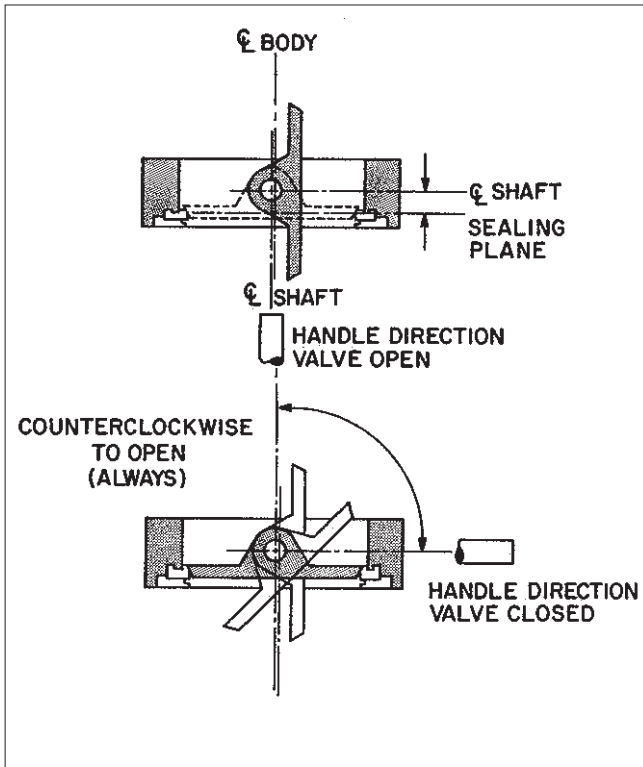

Figure 5.
One of the design features of the *Wafer-Sphere* valve that is responsible for its superior performance is the valve's eccentric shaft design. The shaft is offset in two planes: (1) away from the valve disc centerline; and (2) behind the disc sealing plane (See **Fig. 5**). Offset shaft design makes the rotating disc cam back and away from the seat, completely eliminating the usual wear points at the top and bottom of the seat. Because the disc rotates off the seat in an eccentric arc, it operates in one quadrant only (See **Fig. 5**).
4. Before installing the closed valve in the line, be sure that the handle or actuator is attached so that a counterclockwise rotation, viewed from above, opens the valve (See **Fig. 5**). Again, fully close the valve before installing it in the line. If the valve is not in the fully closed position when the flange bolts are tightened, the seat may be damaged.